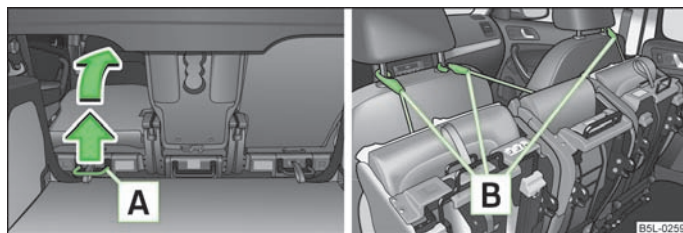

Fig. 50 Fold seat fully forwards/lock folded forward seats
- › Pull the lever **A** » Fig. 50 up and fold the seat forwards fully.
- › Secure the folded forward seat with the aid of the fixing belt **B** to a guide rod of the head restraint for the front seat » Fig. 50.